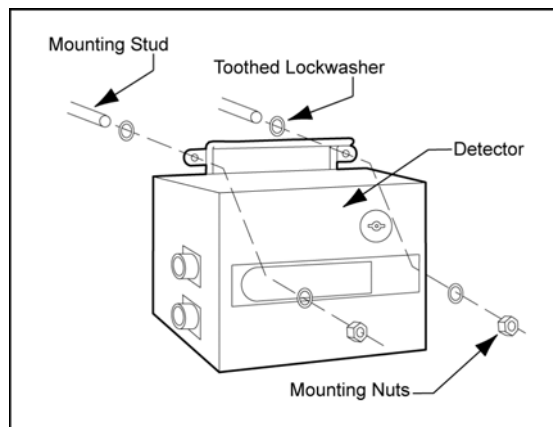

Figure 8. Bonding the Detector
2. Use toothed lock washers to achieve a system bond. Refer to Figure 8. Bonding the Detector.